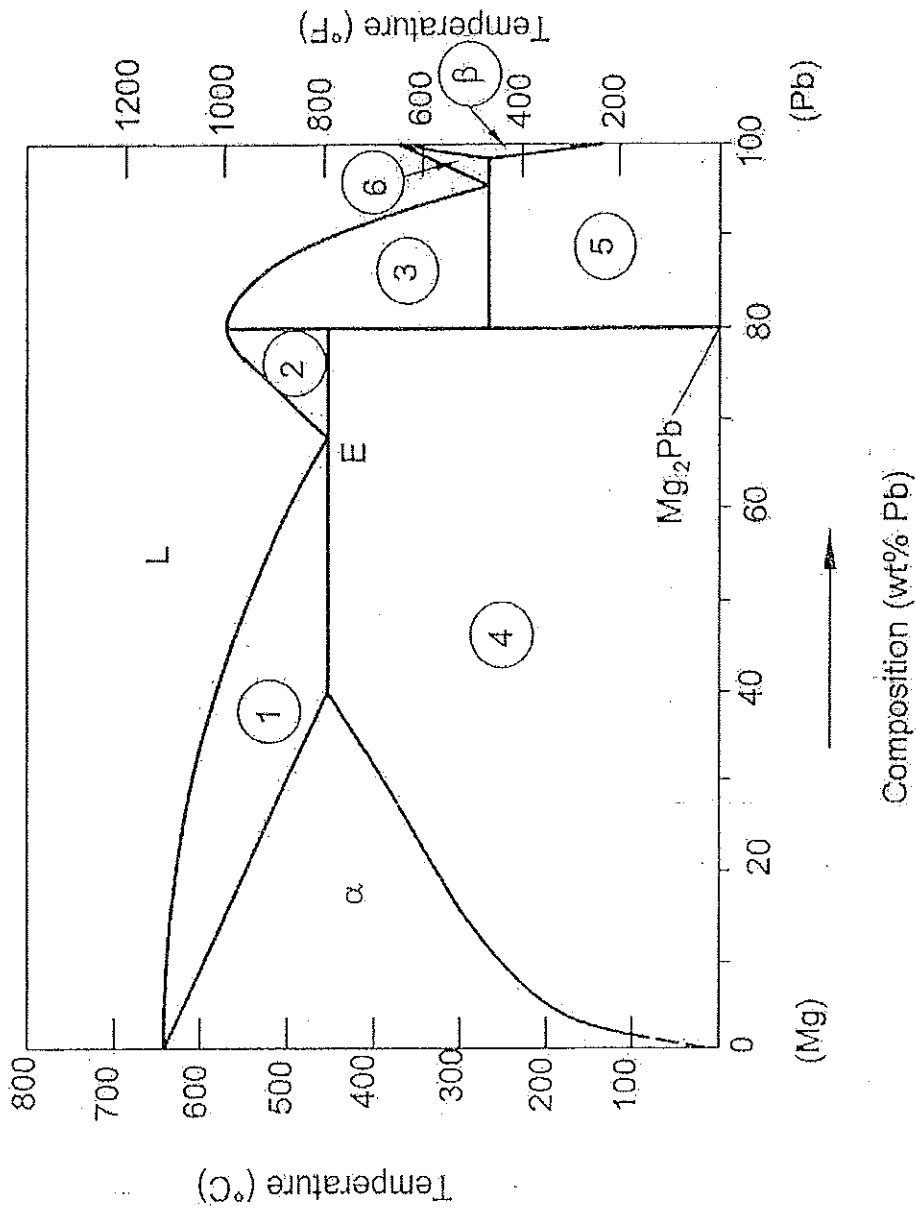

Figure B6 : The Magnesium-Lead phase diagram
- (b) A phase diagram of Magnesium-Lead is shown in **Figure B6.** Answer the following questions refering Figure B6. (12 marks)